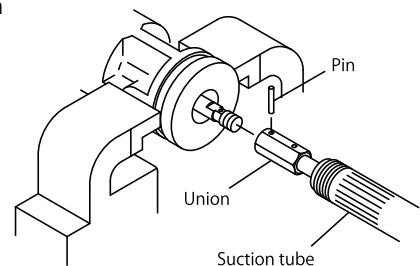

Fig.10
- 7) Pull apart the suction tube a little, and the union connecting between the air motor and the rod becomes visible. Pull out the pin and unscrew it for removal. (Fig.10)